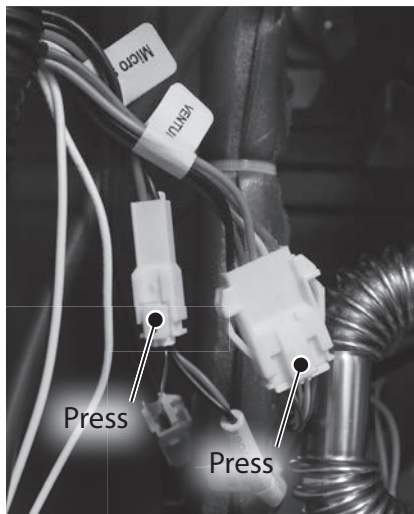

Figure 112 - Locate venturi wire harnesses
- 8 Locate the venturi wires (2x) and disconnect them as shown in Figure 112. Wires are labeled "Venturi" and "Micro Switch." These wires are connected at and run through the black cable conduit located on the left side of the water heater cabinet.